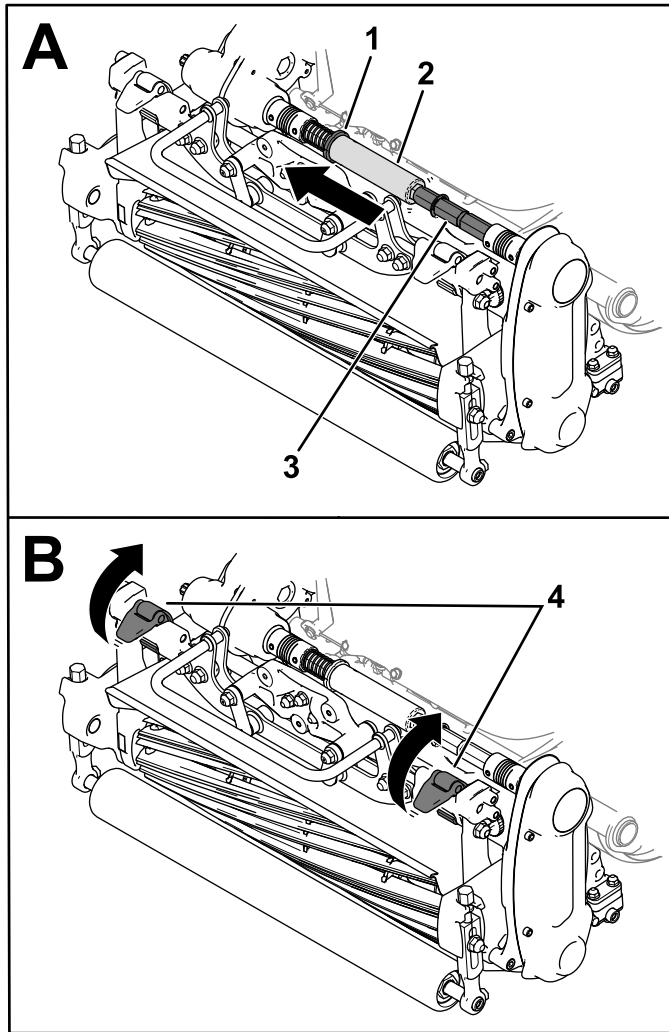

Figure 38
3. Move the collar (Figure 38) into the transmission-shaft groove.
4. Slide the hex tube off of the cutting-unit coupler shaft (Figure 38).
5. Move the suspension latches up to release the cutting unit from the machine (Figure 38).